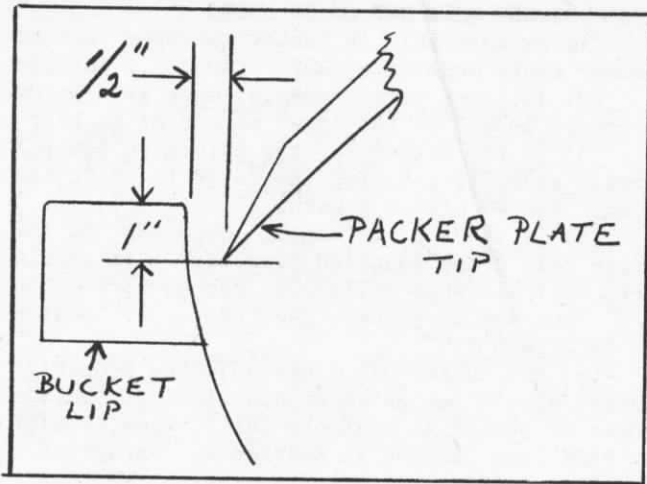

Figure 29. Packer Plate Adjustment
(1) Refer to Figure 42, Item 79 in parts list of this manual. All units with serial No. 191517 and lower were shipped with a rubber bumper. All units with serial No. 191518 and higher were equipped with the No. A252A1351 packer bumper kit. The bumper kit will be supplied as a replacement part for all units. When installing, use only enough shims to provide $\frac{1}{2}$ " clearance between the packer plate tip and the bucket lip, when the packer plate tip is about one inch into the bucket (see Figure 29.)